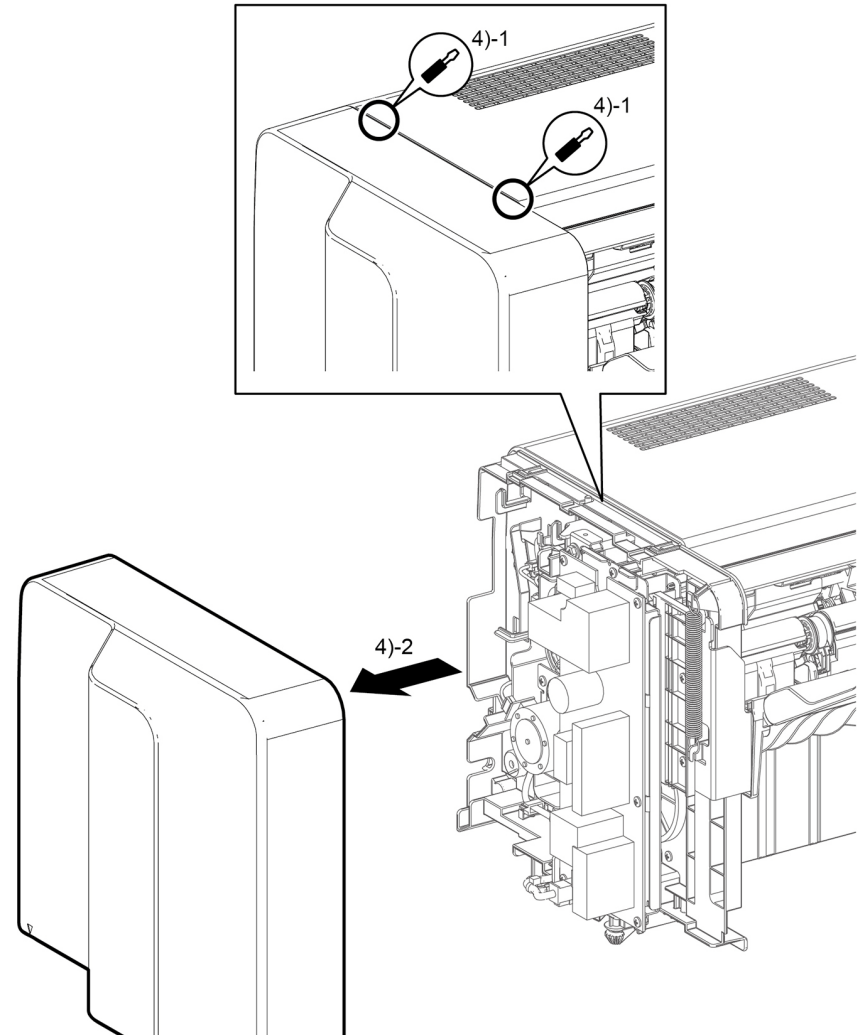

Figure 2 Left cover removal
4. Perform the steps that follow, Figure 2: